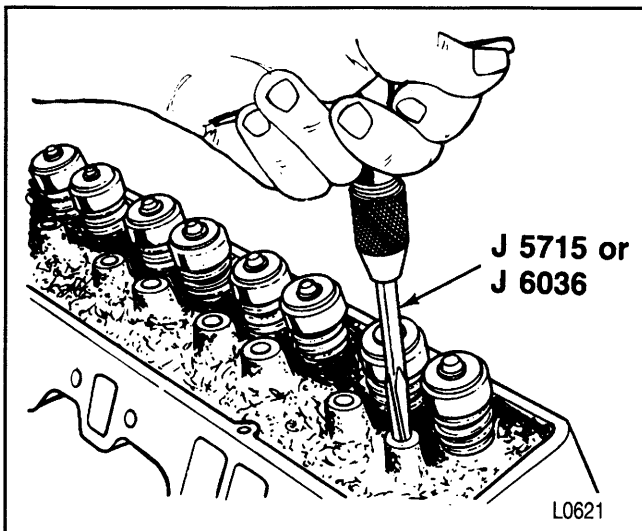

Figure 16—Reaming the Rocker Arm Stud Bore
Install or Connect (Figures 16 and 17)
- Ream the hole to the proper size for the replacement oversize rocker arm stud. Use J 5715 for 0.003-inch oversize studs; J 6036 for 0.013-inch oversize stud (figure 16).